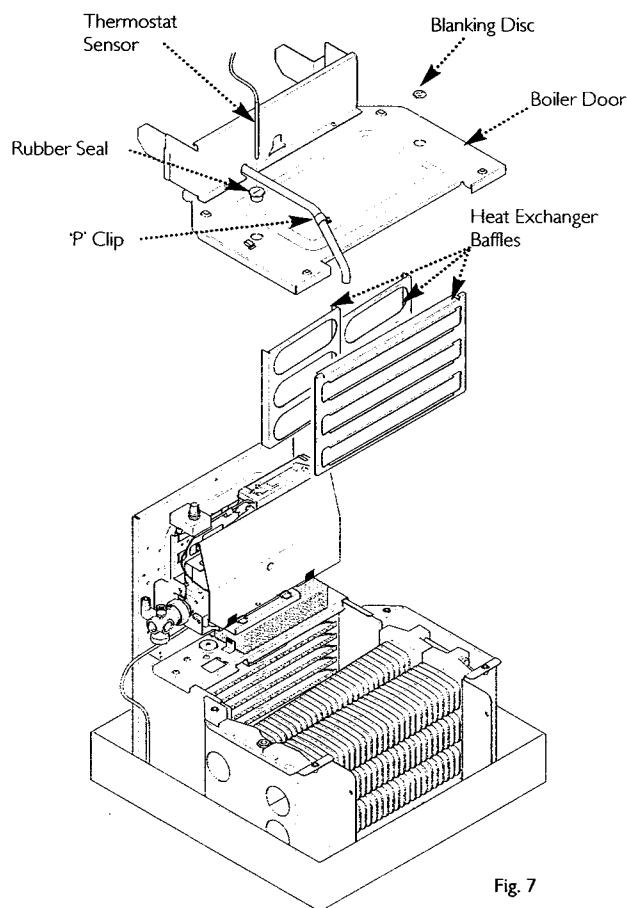

Fig. 7
6.2 For installations requiring the water connections at the right hand side proceed as follows (Fig. 7 & 8):